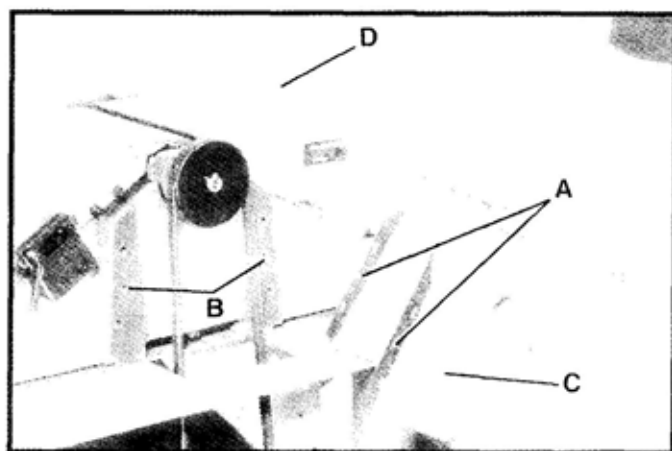

Fig. 13
1. Align two pins (A) Fig. 13, in mounting bracket (C) with two holes (B) at the rear of jointer (D).